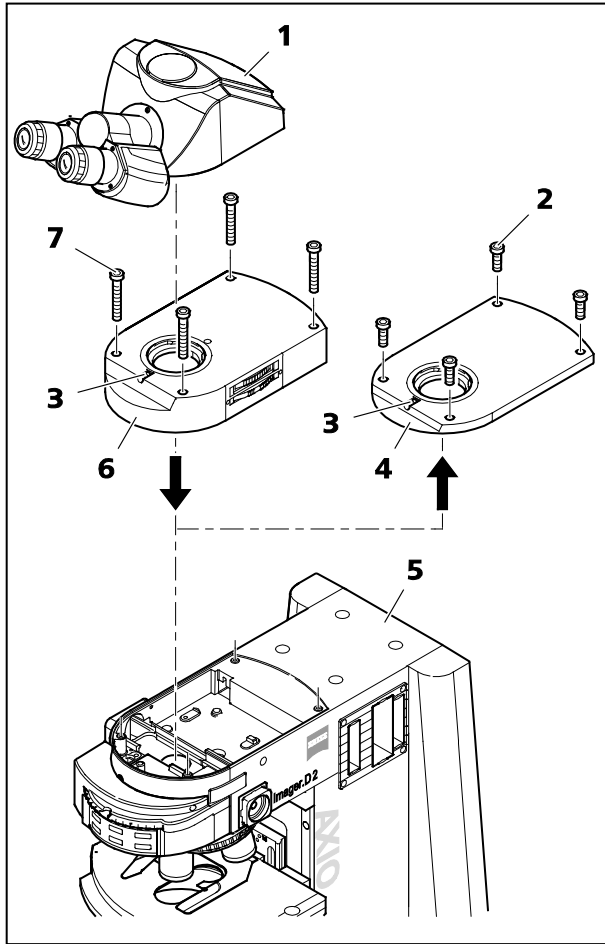

Fig. 11 Mounting the tube lens turret
- Use an AF 3 ball-headed screwdriver to loosen clamping screw (Fig. 11/3) and remove the tube (Fig. 11/1) upward.
- Unscrew the four fastening screws (Fig. 11/2), remove coupler plate (Fig. 11/4) upward and store it for future use.
- Put tube lens turret (Fig. 11/6) onto stand (Fig. 11/5) and screw it down using the four fastening screws (Fig. 11/7) supplied.
- Unscrew the tube lens by hand from the tube to be used (Fig. 11/1). Store it in the storage box.
- Insert tube (Fig. 11/1) without tube lens and dovetail into the mount of the tube lens turret (Fig. 11/6) and tighten clamping screw (Fig. 11/3).